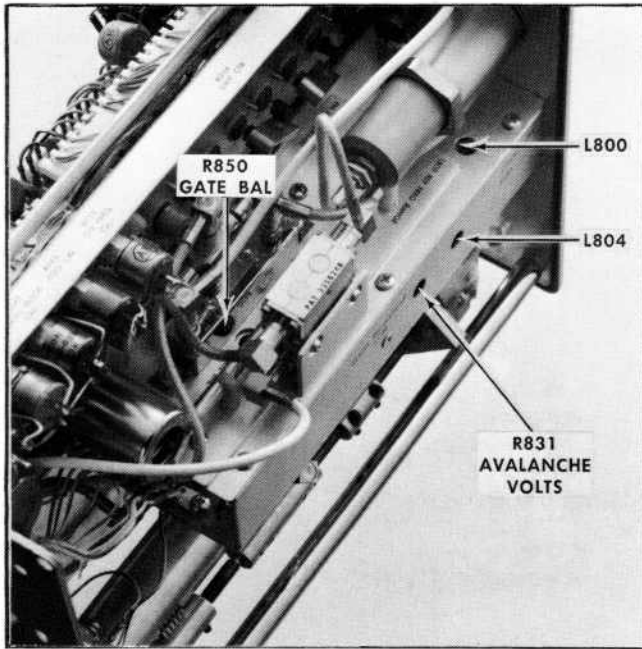

Fig. 5-15. Phase lock circuit adjustments.
- ADJUST—Insert a tuning tool (Tektronix Part No. 003-0310-00) into the access hole in the side of the phase lock assembly (Fig. 5-15) and adjust L804 so the oscillator starts
i. ADJUST— L800 (Fig. 5-15) until the oscillator frequency shift, over the range of the INT REF FREQ control, is 1.2 kHz (2.4 cm).
(1) Apply the 1 MHz markers from the Type 1L40 to Channel 1 Input of a Dual-Trace Amplifier Plug-In Unit (Type 1A1) and 1 μs markers from the Time-Mark Generator (Type 184) through a 10X attenuator and a 50 Ω termination to Channel 2 Input of the Dual Trace Amplifier.
(2) Adjust the deflection sensitivity for both channels of the Dual-Trace Amplifier to equalize the deflection amplitude, then set the Mode switch to Add.
(3) Set the test oscilloscope Time/Cm to 1 ms and adjust the triggering controls for a triggered display.
(4) Turn the Type 1L40 INT REF FREQ control to the initial on position (ccw) and check the beat frequency display for no more than 10 cycles in 10 cm (reference frequency 1 MHz \pm 1 kHz).
d. (This step is a Calibration adjustment. Proceed to part (e) for Performance Check procedure.) ADJUST—the Avalanche Volts R831 (Fig. 5-15) from a fully ccw position clock-